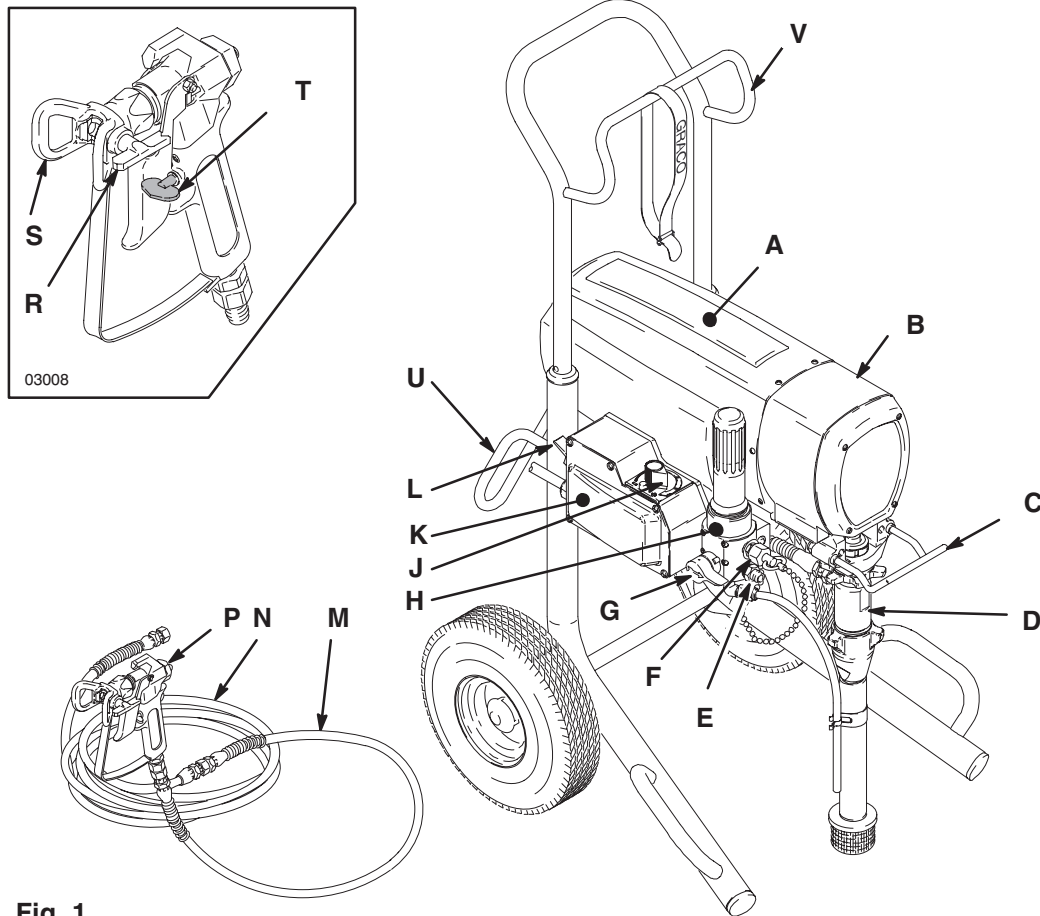

Fig. 1
- Do not install shutoff device between sprayer and gun. See Fig. 1.
NOTE: See Fig. 1, except where noted.